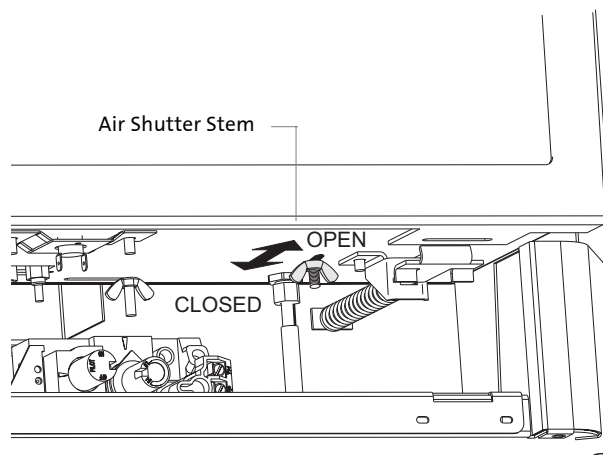

Figure 27. Air Shutter Adjustment.
THE GI425 GAS FIREPLACE IS SHIPPED FROM THE FACTORY EQUIPPED TO USE NATURAL GAS. IF THE BURNER HAS BEEN CONVERTED FOR USE WITH PROPANE, IT WILL BE NECESSARY TO ADJUST THE AIR SHUTTER ON THE BURNER TUBE TO ACHIEVE THE PROPER GAS TO AIR MIX. See fig. 27.
1. Open the Lower Grill panel and locate the Air Shutter adjustment stem extending down from the firebox floor. See fig. 27.